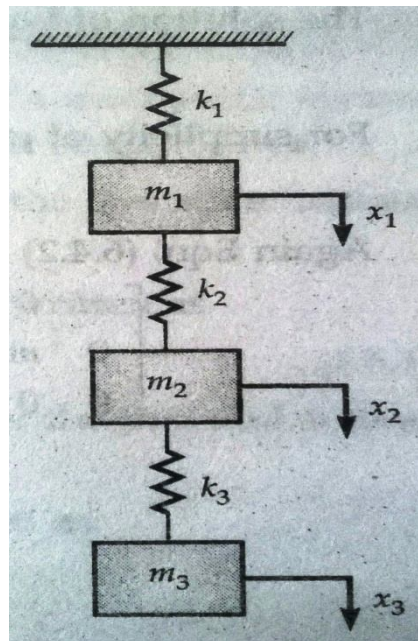

Fig 1: Spring Mass System
- B) Using Holzer Method find the natural frequencies of the system shown in figure1, Assume $m_1 = m_2 = m_3 = 1\text{kg}$ and $k_1 = k_2 = k_3 = 1\text{N/m}$. (08)